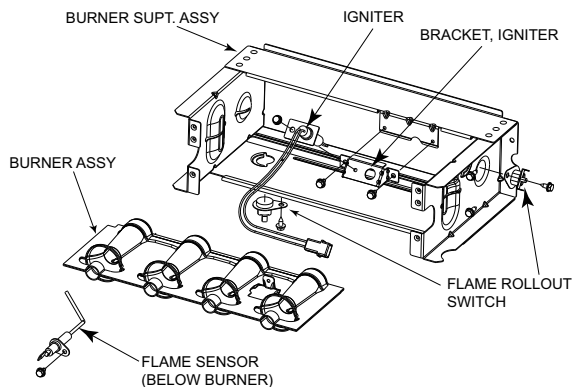
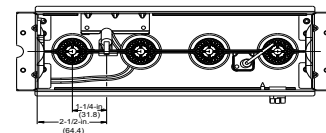
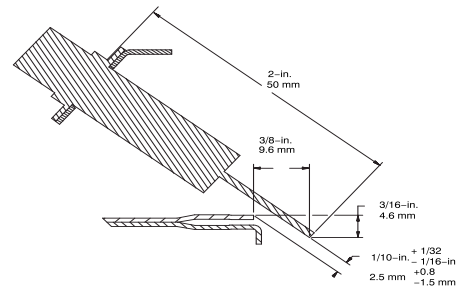

Fig. 65 – Burner Assembly
Fig. 66 – Igniter Position - Top View
Fig. 67 – Igniter Position - Side View
Refer to Fig. 65.
8. Check the igniter alignment. See Fig. 65, Fig. 66, and Fig. 67.
The igniter does **NOT** require annual inspection. Check igniter resistance before removal. Refer to Fig. 65, Fig. 66, and Fig. 67.
- a. Using a 1/4-in. driver, remove the two screws securing the igniter mounting bracket to the burner assembly (Fig. 65).
6. To replace igniter and bracket assembly, reverse items 5a through 5d.
7. Reconnect igniter harness to the igniter, dressing the igniter wires to ensure there is no tension on the igniter itself (Fig. 65).